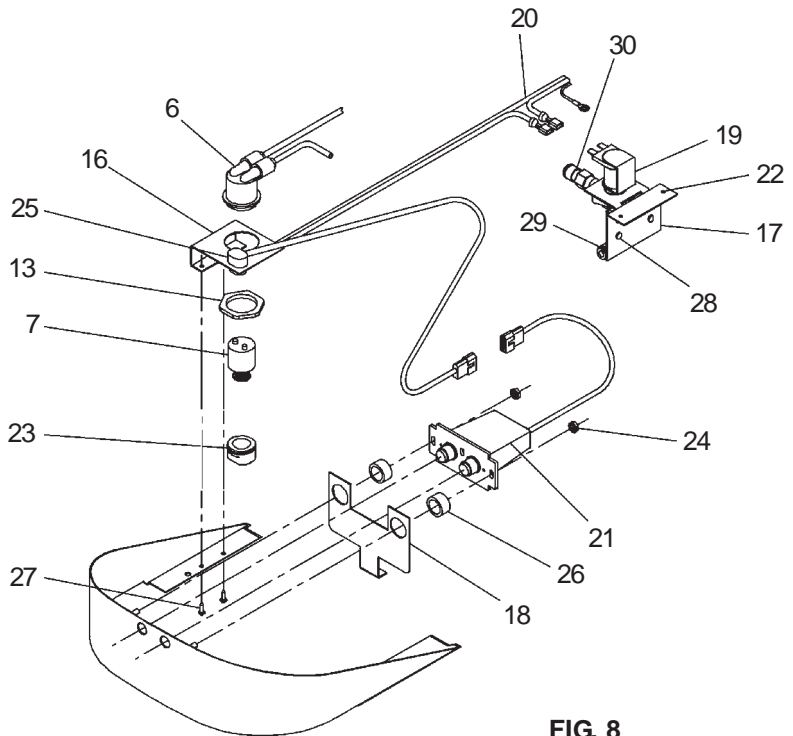

FIG. 8
8. Install fountain. Remove bottom cover plate on underside of fountain and save the screws. Mount the fountain to the upper panel and the wall frame with (4) 5/16" x 3/4" (19mm) long bolts and nuts (provided). Tighten securely.
11. Connect power cord of sensor to solenoid valve by running it through the back panel and connecting it as shown in Fig. 8. Connectors may be connected to either terminal on solenoid valve. Attach ground wire to solenoid valve bracket with green ground screw.
15. Check stream height from bubbler. Stream height is factory set at 35 PSI . If supply pressure varies greatly from this, remove item 11 (bottom cover plate) and adjust the screw on the regulator (item 7). Clockwise adjustment will raise stream height and counter-clockwise will lower stream height. For best adjustment stream height should hit basin approximately 6-1/2" (165mm) from the bubbler.
16. Mount lower panel. Loosen the (2) #10-24 x 5/8" (16mm) screws at frame bottom lip. Slide upper tongue of lower panel under lower edge of already installed upper panel. Tighten previously loosened screws securely.